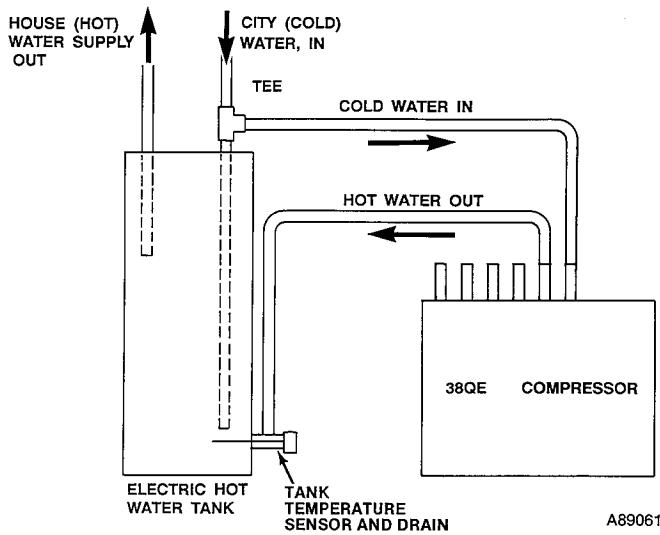
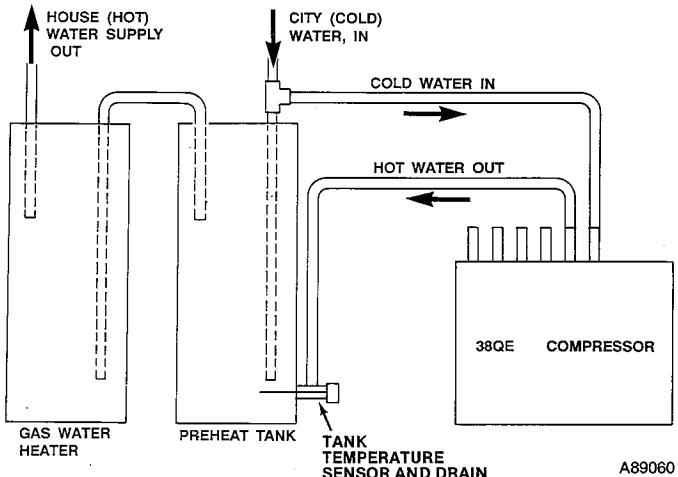

Fig. 7a—Installation with Conventional Electric Water Heater
Fig. 7b—Installation with Gas Water Heater and Preheat Tank
Installation of the 38QE with a conventional electric water heater is shown in Fig. 7a. Installation with a gas water heater and preheat tank is shown in Fig. 7b.
The connection of the water heating lines to the tank includes the installation of the tank water temperature sensor. The tank water temperature sensor is located within the drain fitting of the tank. The fitting location is shown in Fig. 7a,b. The detail for installing the sensor is shown in Fig. 8.
3. Remove drain valve from bottom of tank which requires sensor (Fig. 7a or 7b). Install pipe nipples and tee and install tank water temperature sensor as shown in Fig. 8. Bend sensor up to avoid hitting water tanks that have dome shaped bottoms.